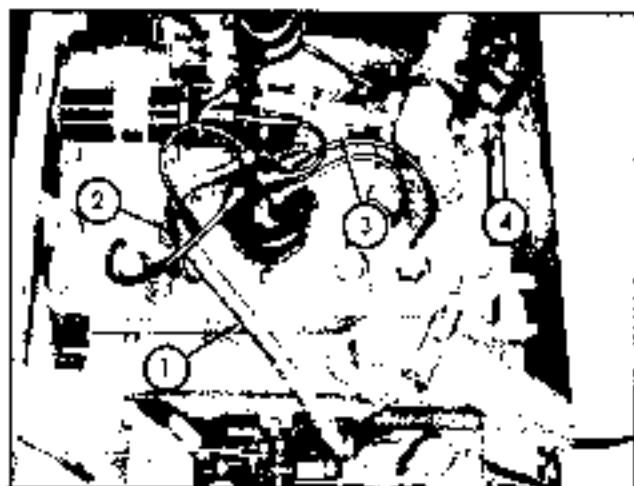

Fig. 130. LP Gas equipment
q. Install 54 inch hose between regulator and elbow on carburetor. Install clip assembly on long leg, shown in Fig. 130, to support fuel line.